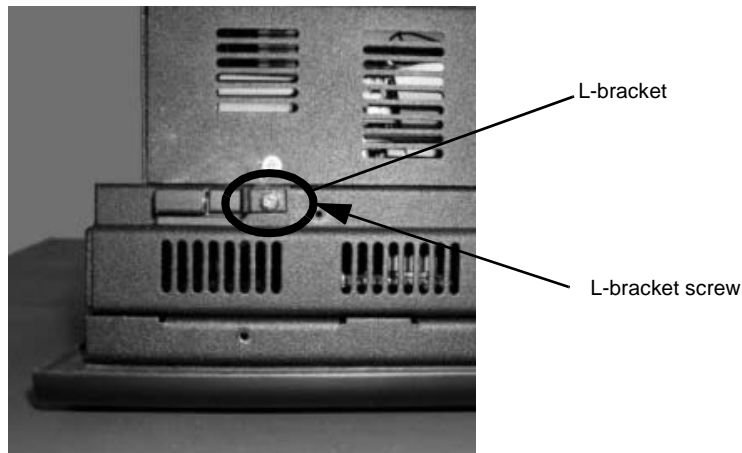

Figure 1: L Bracket Location
2. Remove the screw on the left side of the unit holding the L shaped bracket to the unit. The bracket is located next to the upper backshell pin as shown in figure 1.
10. Secure the L shaped bracket, next to the upper left hinge of the unit using the screw removed in step 2 of the *Opening the PowerStation* section. Refer to figure 1.